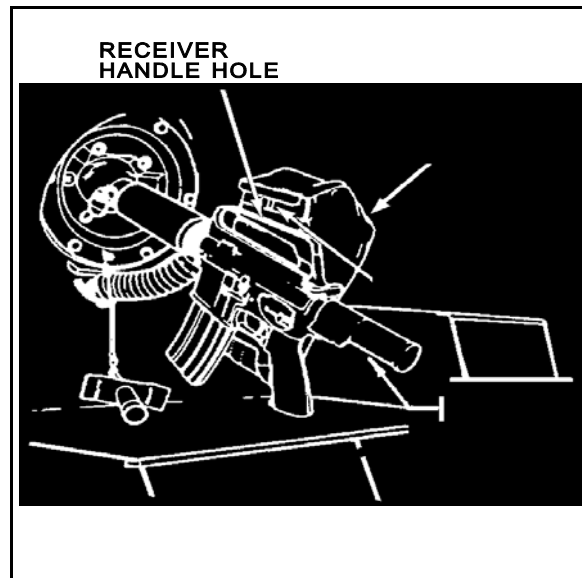

Figure 4. Brass-catcher bag.
4. Attach the brass-catcher bag. Remove the brass-catcher bag from the stowage clip and place the bag on the receiver handle. Ensure that the holder pin mates with the hole in the firing port submachine gun carrier handle. Check that the bottom flap of the bag is closed, that no holes are in the bag or vent hose, and that the vent hose is securely clamped to the bag and hull (Figure 4).